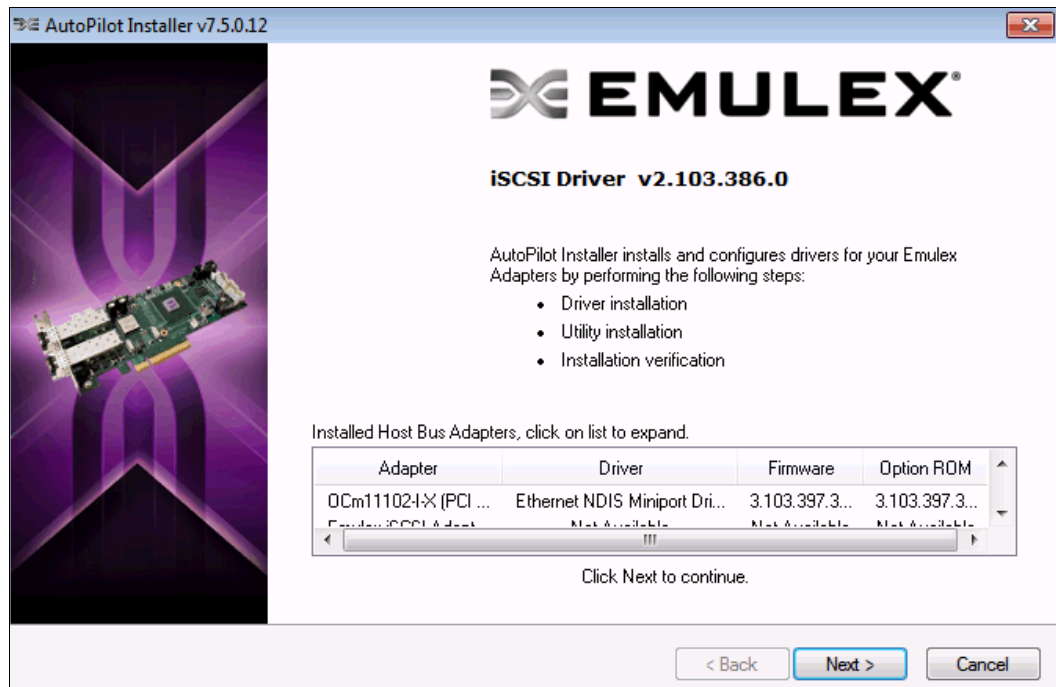

Figure 7-21 Detected Emulex Virtual Fabric Adapters
- In the panel that shows the installed HBAs and detected Emulex Virtual Fabric Adapters (Figure 7-21), click **Next**.